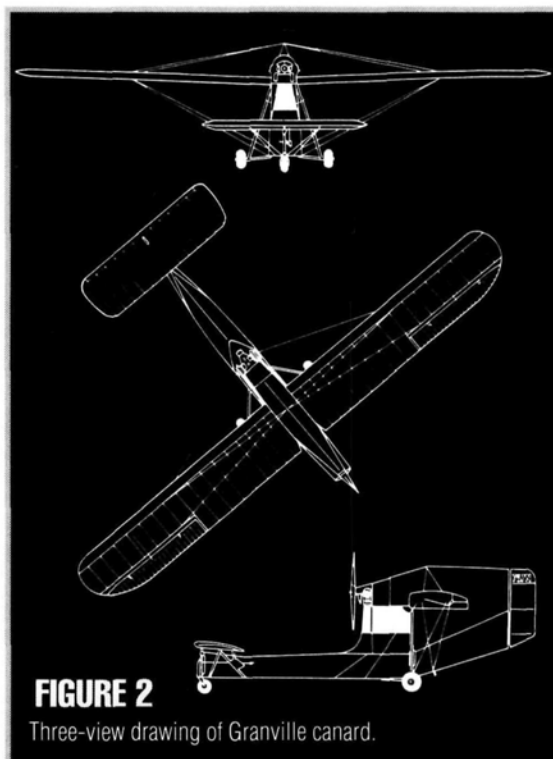

FIGURE 2
• **Granville canard (Figure 2).** Both PU and CU (the pilot) are located close to the CG for good maneuverability. A modernized version of this clever design would be interesting.